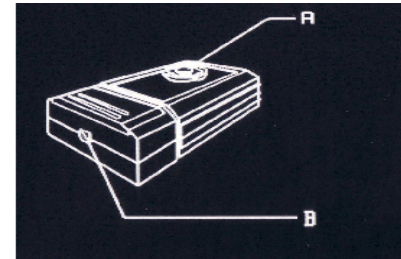

Fig. 1
2. Mount or place the probe in the appropriate measurement position. The probe has two 1/4" mounting holes (B in Fig. 1), which allow it to be mounted either vertically or horizontally on e.g. a camera tripod.
4. Check the probe zero with the cap firmly on the detector (A in Fig. 1). If necessary, zero the meter by pressing the ZERO key on the keypad of the display unit.